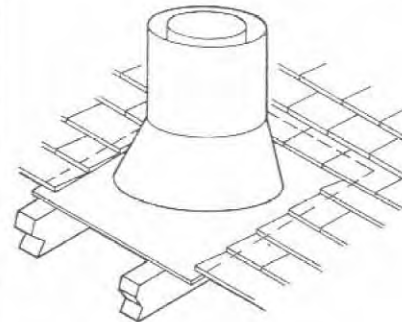

Figure 32
**Step 7:** Secure flashing by nailing along perimeter into roof using 8d nails. If shingled roof, slide upper end and sides of flashing under shingles (trim if necessary), seal the top and both sides of the flashing to the roof with roof caulking. Cover nail heads with roof caulking (Figure 32).